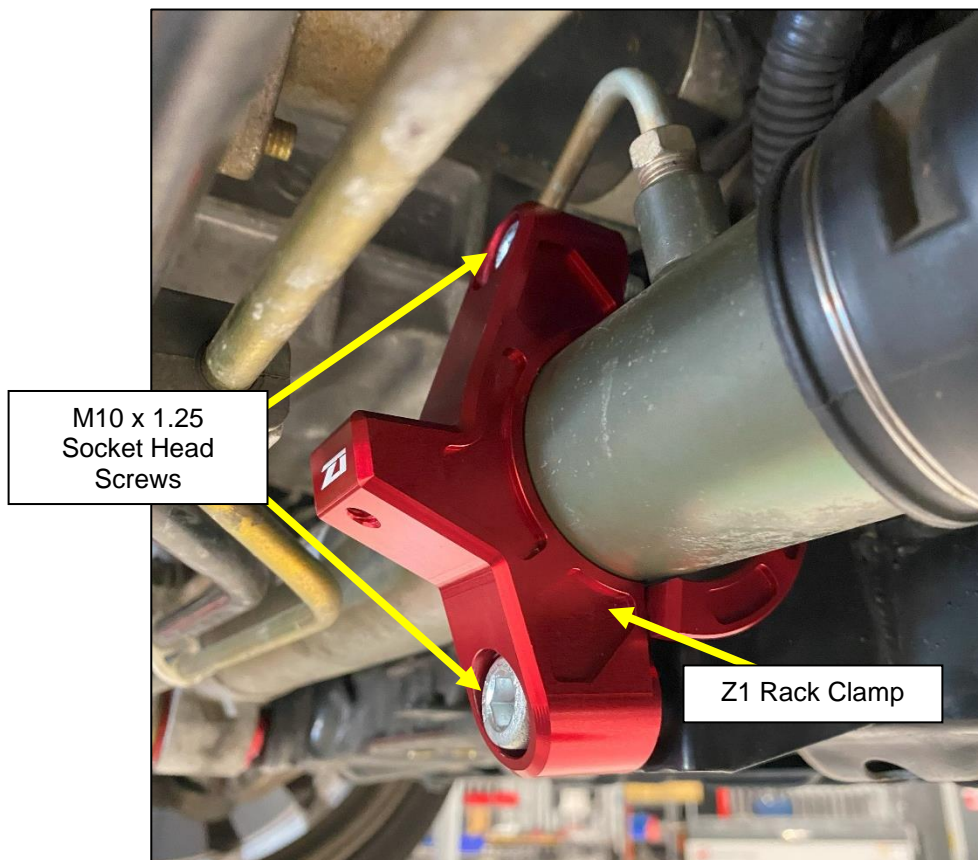

Figure 10
18. Locate the Z1 Rack Clamp and the (2) two M10 x 1.25 Socket Head Screws. Place the Z1 Rack Clamp over the Steering Rack and line it up with the Z1 Rack Half. Using a Hex/Allen Key, loosely secure the Z1 Rack Clamp to the subframe with the M10 x 1.25 Socket Head Screws. *Figure 10.*